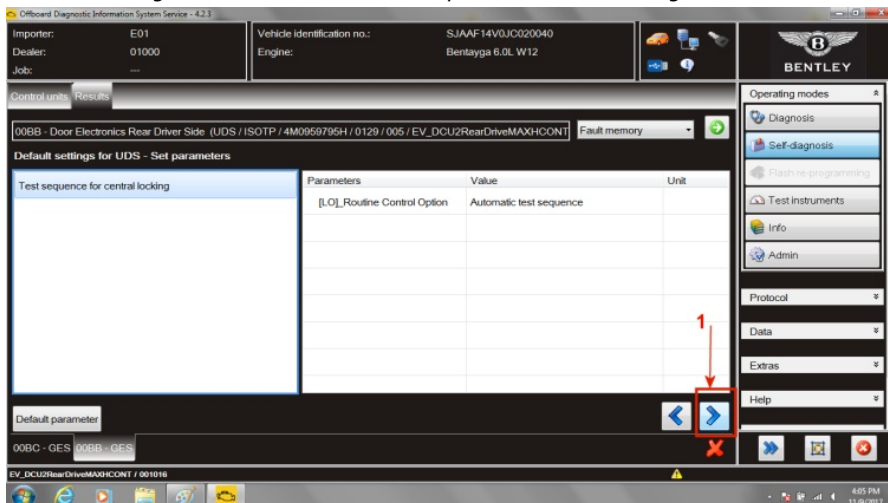

Figure 10
21. Select forward arrow (1) at *Default settings for UDS - Set parameters* screen (see Figure 10)